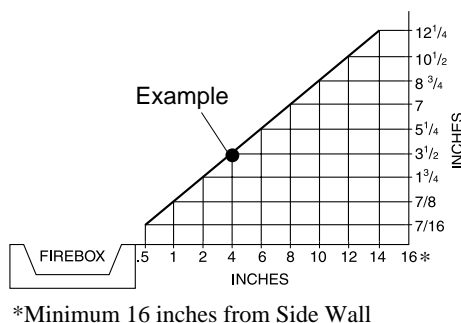

Figure 4 - Minimum Clearance for Combustible to Wall
**⚠ WARNING:** Maintain the minimum clearances shown in Figure 4. If you can, provide greater clearances from floor, ceiling, and joining wall.
- Clearances from the side of the fireplace cabinet to any combustible material and wall should follow diagram in Figure 4.
*Example:* The face of a mantel, bookshelf, etc. is made of combustible material and protrudes 3 1/2" from the wall. This combustible material must be 4" from the side of the fireplace opening (see Figure 4).